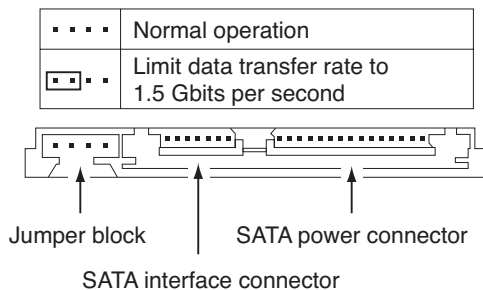

Figure 2. Jumper options
- Install a jumper as shown in Figure 2 below to limit the data transfer rate to 1.5 Gbits per second (and leave the drive connected to the SATA-equipped motherboard or host adapter that doesn't support autonegotiation) or
- Install a SATA host adapter that supports autonegotiation, leave the drive jumper block set to “Normal operation” (see Figure 2 below), and connect the drive to that adapter. This option has the benefit of not limiting the drive to a 1.5 Gbits/sec transfer rate.